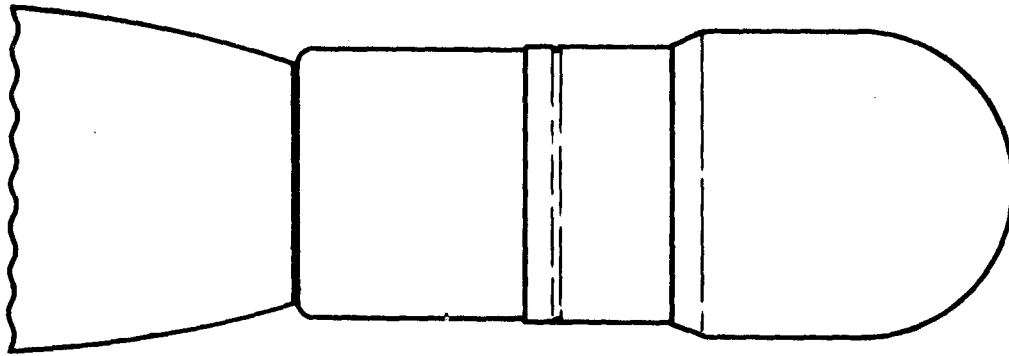

Figure 5-15A. Proximity Fuze XM429
a. XM429 Proximity Fuze (used with the 2.75" Rocket) (reference figures 5-15A, 5-15B, 5-16, and table 1). The XM429 Proximity Fuze will not be discussed because of classification.